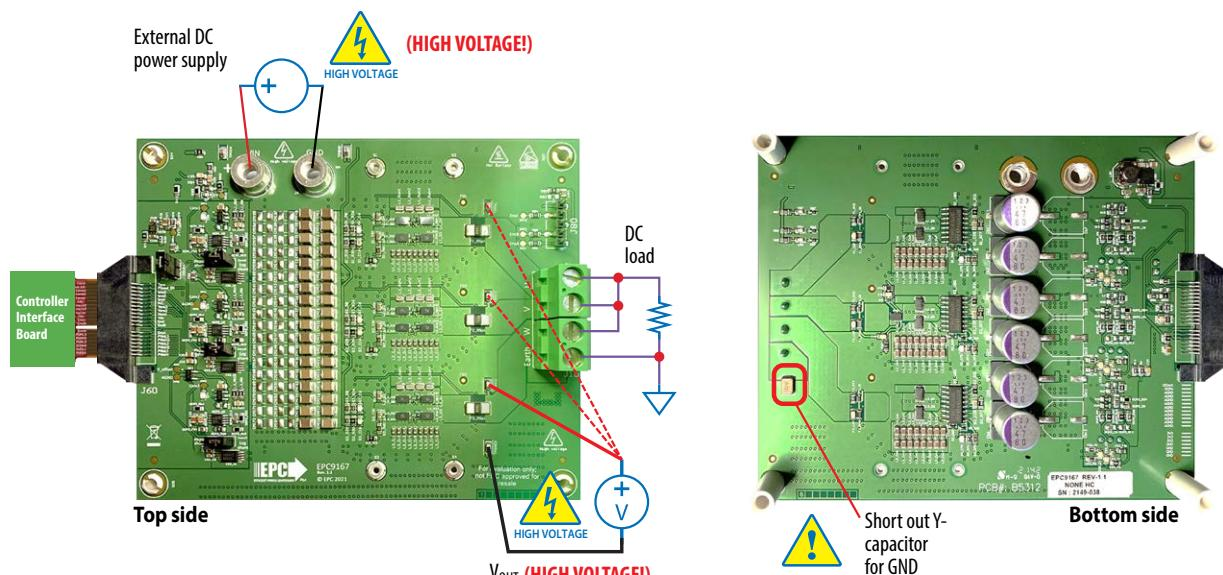

Figure 6: Connection diagram of the EPC9167 configured as a multi-phase converter
The EPC9167 can also be configured as multi-phase synchronous buck converter with either 2 or 3 phase options. When configured as a 2-phase converter, the user can choose any combination of output but should make use of the applicable on-board inductor pad allocations, with appropriate value for the inductor at the chosen operating frequency. **In this configuration it is important to remove the Y-capacitor (CY) and short out the pads with a conductor that can carry the full rated load current.** The earth connection then becomes the ground (GNDP) return as shown in figure 6. The output voltage can be measured using any of the phase voltage test points with respect to the ground (GNDP).